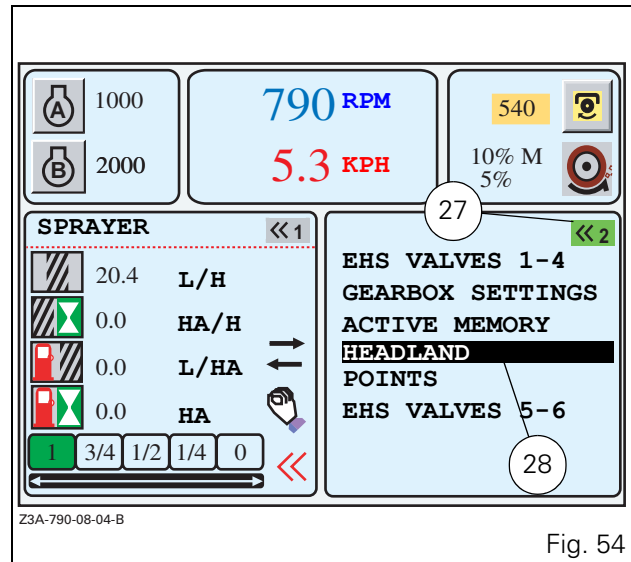

Fig. 54
HEADLAND menu displayed in the right-hand window for example (Fig. 54):
- To display this menu, press key <<2> twice. The first press selects the window and the second press displays the list if no application was activated previously. The active application is indicated by the green icon at the top right-hand of the window (27 Fig. 54), and on b/w screens the active window is indicated by the same icon in reverse video.
- To select the HEADLAND menu, select the application using the encoder. The selected application is displayed in a black frame (28 Fig. 54).